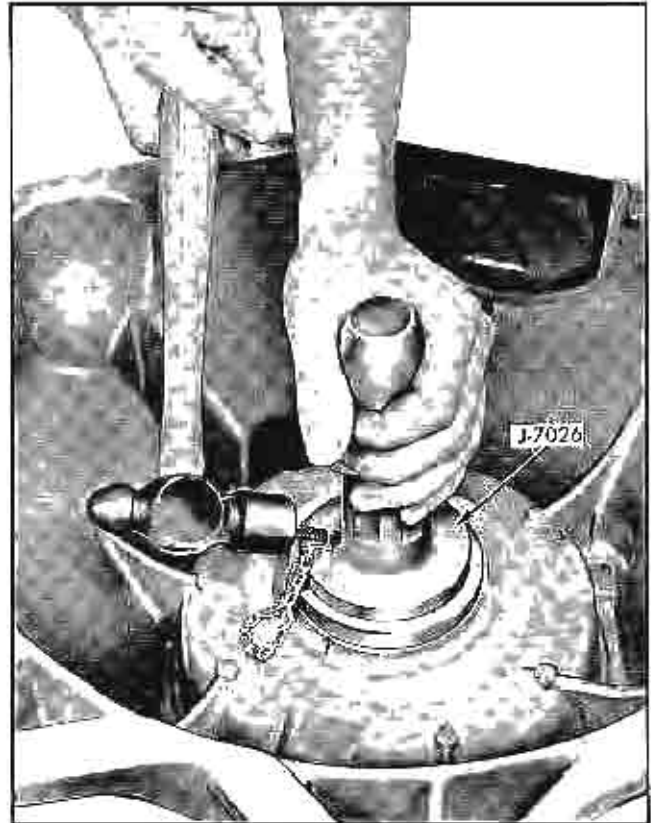

Fig. 143 Staking Oil Seal in Place
1. Remove pressure regulator valve stop plug (Fig. 143).